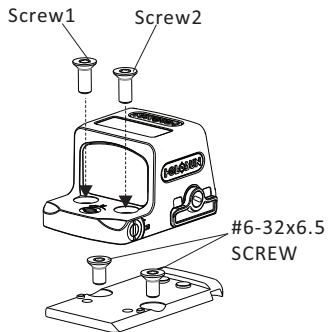

Fig 4-1
1. EPS: To use the included RMR adapter plate, first use two included #6-32x6.5 screws to attach the adapter plate to the slide and then use the provided screws to attach the sight to the adapter plate. Figure 4-1